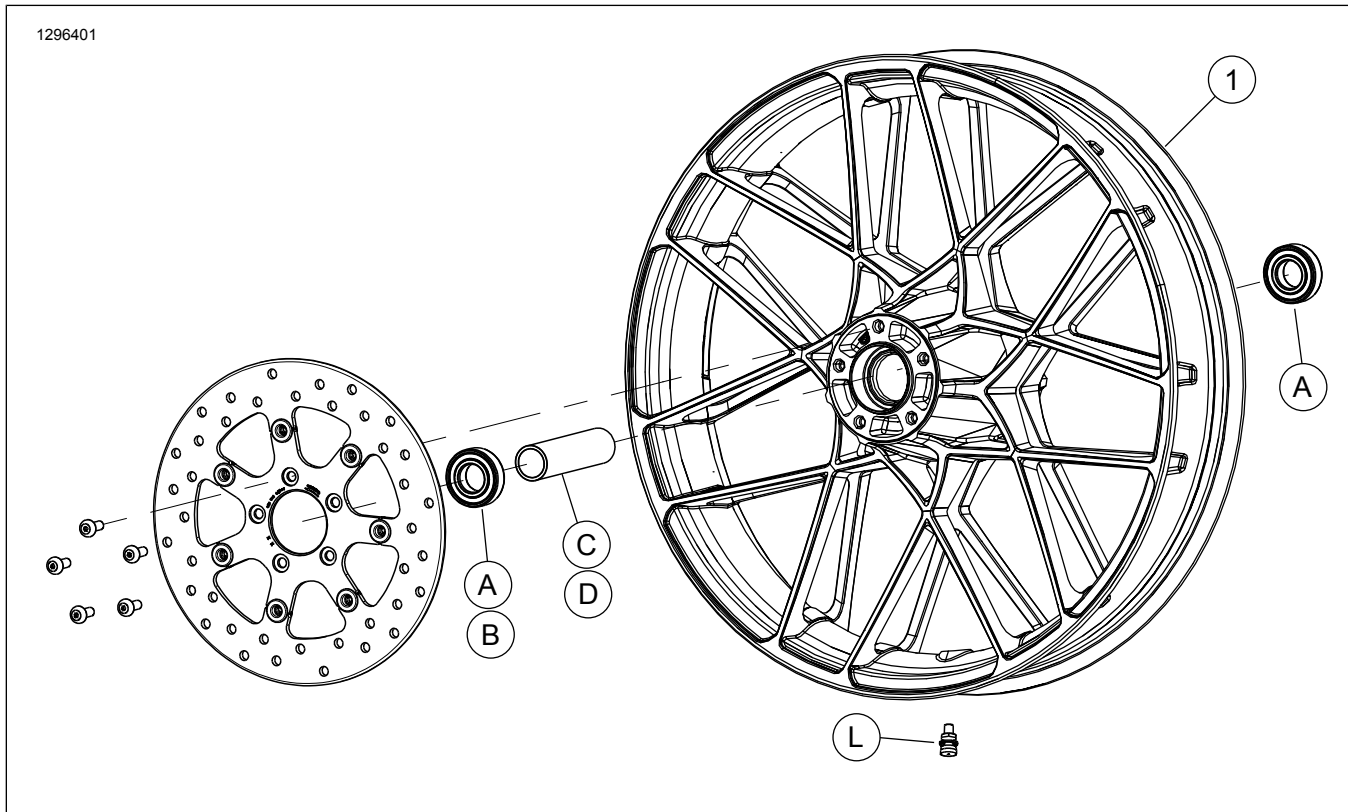

Figure 2. Service Parts: Front Wheel
This kit includes custom wheel only. See Figure 2 and Table 2.
- See Figure 2. Install valve stem assembly (L) on wheel. See service manual.